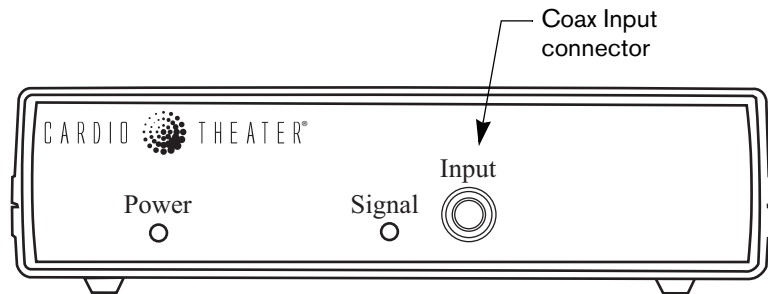

Figure 17: Attach the cable from the distribution unit to the Coax Input connector
7. If your site will use a QuadPac Wired Amplifier, connect the coaxial cable from the distribution unit to the Coax Input connector on the front of the wired amplifier. See Figure 17.